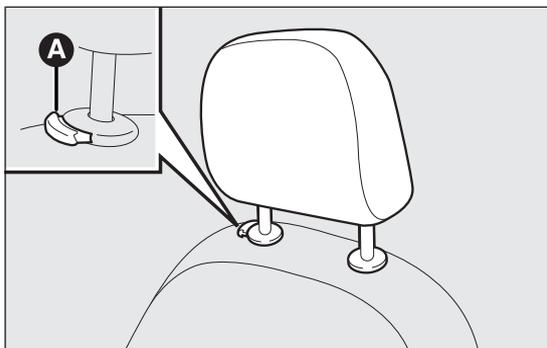

fig. 22
These are height-adjustable and lock into place automatically fig. 22.
- Downward adjustment: press button A fig. 22 and lower the headrest.